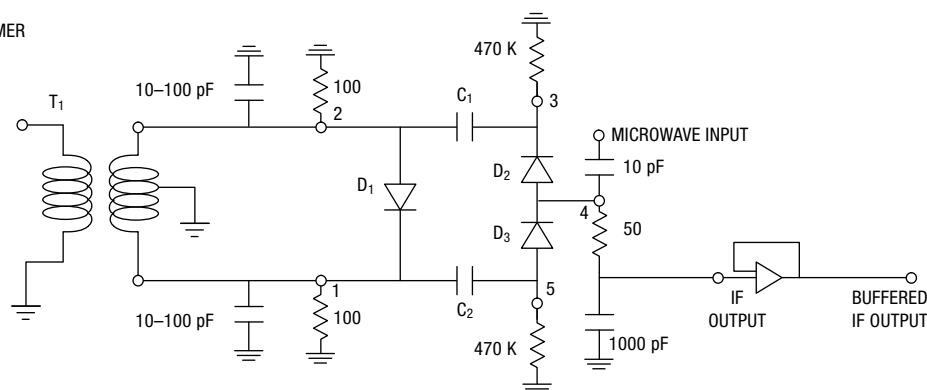

Figure 3a. Test Circuit for Sampling Phase Detector
There are two circuits widely used to evaluate and characterize the performance of the sampling phase detector. Figure 3a and 3b show the single-end and double-end configuration of the test circuit. These circuits can also be used in real application for phase locked VCO.
2. Between the secondary of the transformer and the sampling phase detector is a matching network, which isolates the transformer from the sampling phase detector. The matching network also acts as a termination and tune circuit (Figure 3a) or as a short at reference frequency and an open circuit at microwave frequency. The transformer should have an amplitude balance of 0.5 dB and a phase balance of 2 degrees at the operating frequency of 100 MHz.